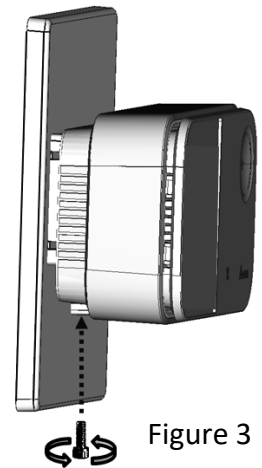

Figure 3
5. As shown in Figure 3, use a hexagonal screwdriver to fasten the M4 hex socket screws to complete the installation